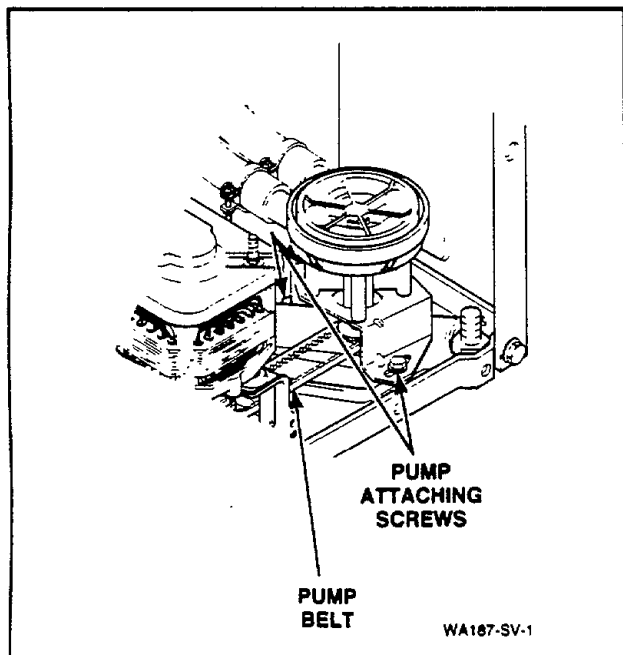

Figure 34
- Remove front mounting screw and loosen rear mounting screws holding pump and bracket to washer base, *Figure 34*. Pivot entire assembly toward motor to loosen belt tension.
- Loosen hose clamps and remove hoses from pump assembly, *Figure 34*.